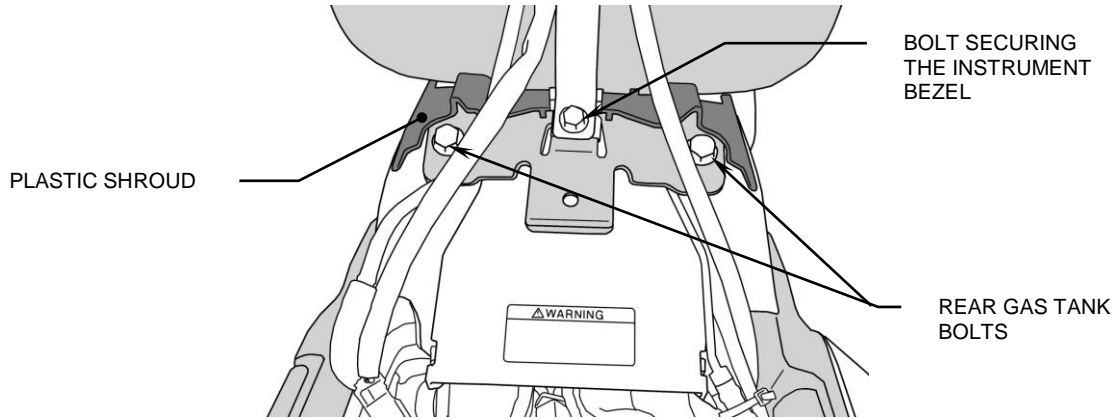

FIGURE 1
3. Loosen and remove the bolt securing the instrument bezel to the rear of the fuel tank. Remove the plastic shroud at rear of fuel tank, partially covering fuel tank bolts, see Figure 1. Remove the two bolts securing rear of fuel tank. At the front of the fuel tank remove the rubber covers which are installed on the fuel tank's front bolts. Loosen the bolts only 1-2 turns, **do not remove**.